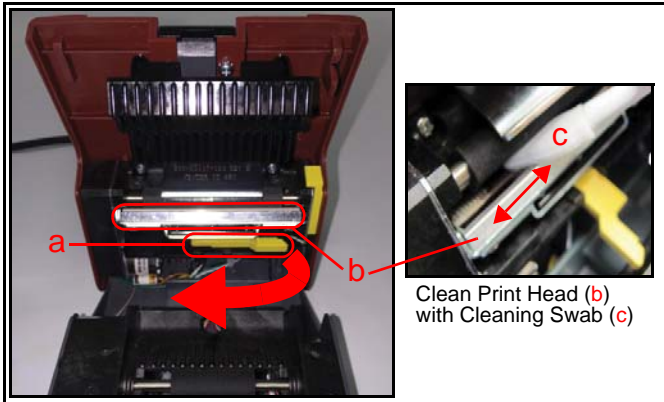

Figure 15 Print Head Release Lever/Print Head
- Print Head (refer to Figure 15 b on page 17)
6. Open the Print Head Release Lever (Figure 15 a).
7. Clean the Print Head (Figure 15 b) using a Cleaning Swab (Figure 15 c).
- Close the Print Head Release Lever (refer to Figure 15 a on page 17).